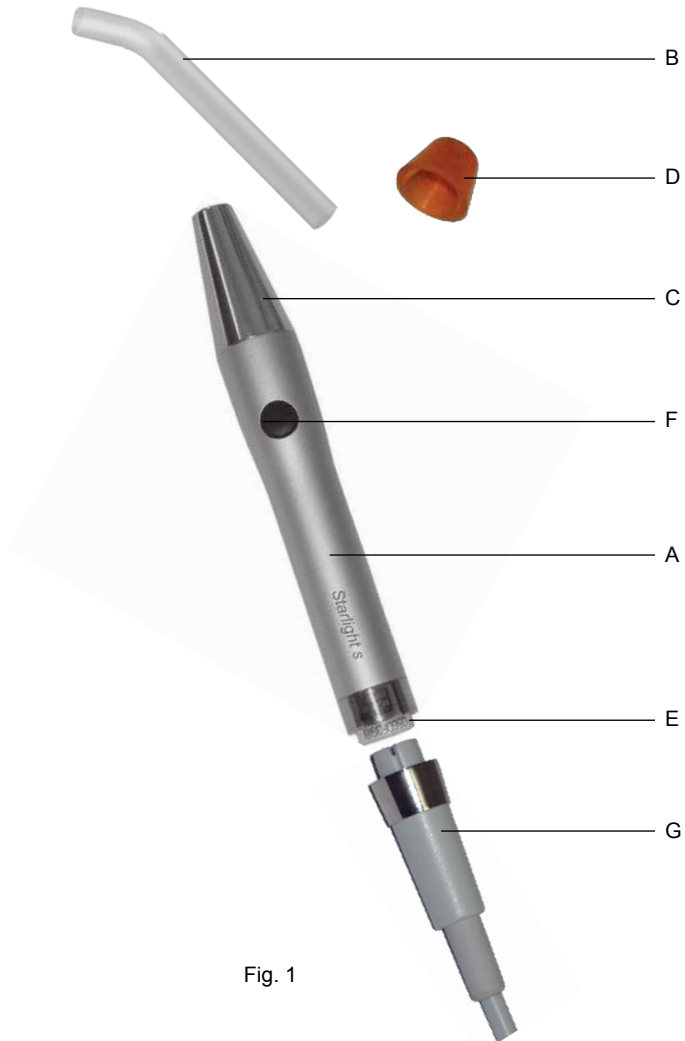

Fig. 1
The Starlight s handpiece serial number is engraved on its connector (Fig.1 - Ref.E).
- 1 Starlight s handpiece (Fig.1 - Ref.A).
- 1 Optical fibre (Fig.1 - Ref.B).
- 1 Optical protection (Fig.1 - Ref.D).
Description of the controls (Fig. 1):
- To start the Fast exposure cycle press the push button on the handpiece briefly (Fig.1 - Ref.D). An acoustic signal will be heard (1 beep).
- To start the Slow Rise exposure cycle hold the push button on the handpiece down for 2 seconds (Fig.1 - Ref.F). At the start an acoustic signal will be heard and after 2 seconds another acoustic signal to confirm the Slow Rise cycle beginning.
Both in the Fast and in the Slow Rise mode, the exposure cycle can be broken off at any time by pressing the push button on the handpiece (Fig.1 - Ref.F).
At the end of any exposure cycle, it is possible to carry out one or more additional cycles by pressing the push button on the handpiece again each time (Fig.1 - Ref.F).